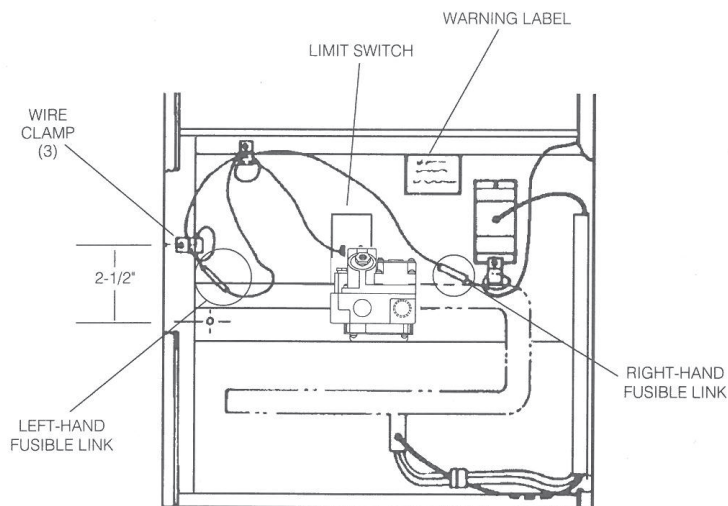

FIGURE 2
These instructions are for the following furnace models only: 375A, 376A and 58DH. These 3 models of furnaces use (2) 10-660, one on the right-hand side (RH) and one on the left-hand (LH). See figure 2 for their exact locations.
7. Route the furnace wire and fusible link through the wire clamp and position the fusible link as shown in figure 2.
8. Crimp the other end of furnace wire (one with the quick-connect) to the connector on the fusible link. Be sure fusible link is positioned as shown in figure 2.
WARNING: Failure to position the fusible link as shown in figure 2 can cause serious damage to the furnace and/or structure.
9. Peel backing off the "yellow" label provided and place it as shown in figure 2.
6. Route the furnace wire and fusible link through the wire clamp and position the fusible link as shown in figure 2.
7. Crimp the other end of furnace wire (one with the quick-connect) to the connector on the fusible link. Be sure fusible link is positioned as shown in figure 2.